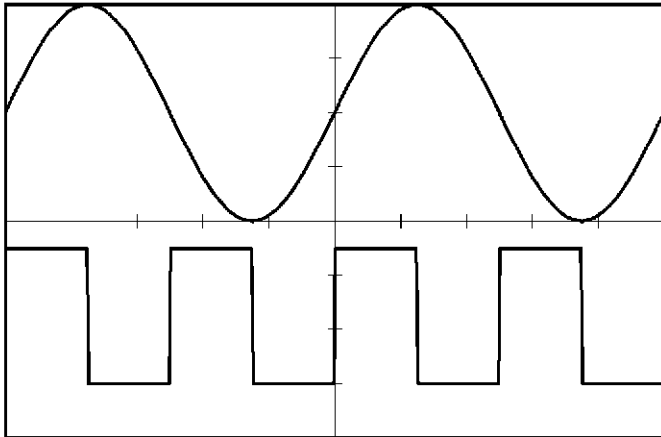

Figure 8-7 Waveform Verification for the Memory Marker
- 22. Verify that the marker, which repeats a high level and a low level for every 1/4 period of the output signal, is output as shown in Figure 8-7.